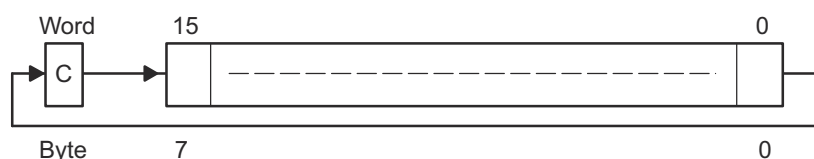

Figure 3-18. Destination Operand - Carry Right Shift
The destination operand is shifted right one position as shown in Figure 3-18. The carry bit (C) is shifted into the MSB, the LSB is shifted into the carry bit (C).